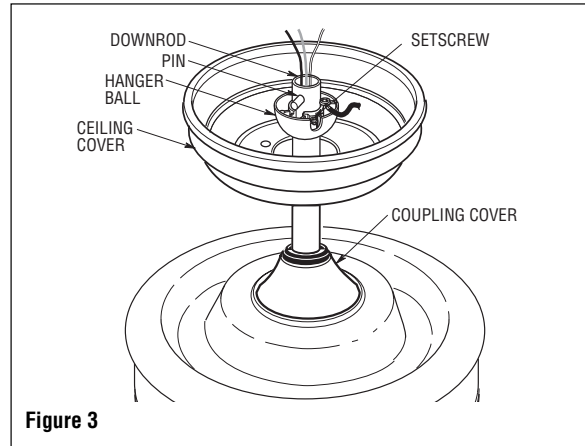

Figure 3
3. Make sure the grommet is properly installed in the coupling cover, then slide the coupling cover on the downrod until it rests on the motor housing. Place the ceiling cover over the downrod. Be sure that the ceiling cover and the coupling cover are both oriented correctly (Figure 3).
4. Reinstall the hanger ball (Figure 3) on the downrod as follows. Route the three 80" motor leads through the hanger ball. Position the pin through the two holes in the downrod and align the hanger ball so the pin is captured in the groove in the top of the hanger ball. Pull the hanger ball up tight against the pin and securely tighten the setscrew in the hanger ball. A loose setscrew could create fan wobble.